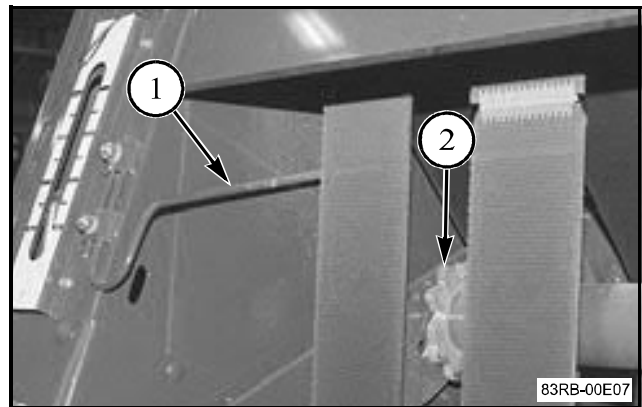

FIG. 11
FIG. 11: The baler is equipped with a mechanical audible alert mechanism (1) that tells the operator when the bale has reached full size and is ready to be wrapped. The audible alert rod contacts the sprocket (2) that is connected to the right-hand end of the front bale density roll. The audible alert mechanism makes a sharp intermittent sound which is easily heard. The operator must begin the wrapping procedure as soon as the audible alert sounds. The audible alert will continue to sound until the bale is discharged from the bale chamber.